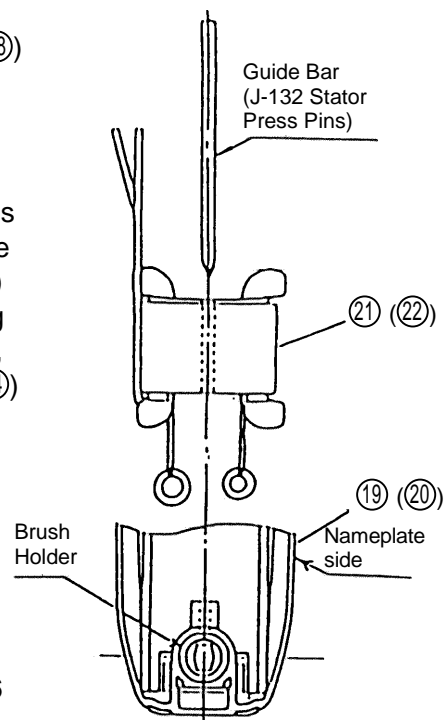

Fig. 11
(4) Reassemble the Stator ㉑ (㉒):
As illustrated in Fig. 11, insert a guide bar (the J-132 Stator Press pins [Special Repair Tool, Code No. 970911] are recommended) to ensure that the screw holes of the Stator ㉑ (㉒) and Housing Ass'y ⑲ (㉓) are properly aligned, and press fit the Stator ㉑ (㉒) into the Housing Ass'y ⑲ (㉓). When press fitting of the Stator ㉑ (㉒) is completed, connection between the Stator ㉑ (㉒) and the Brush Holders ㉓ (㉔) is automatically accomplished.
(5) Lubrication: